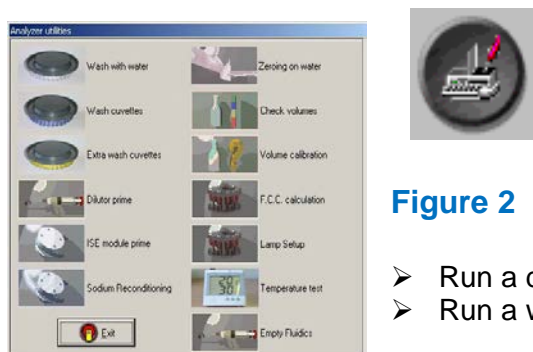

Figure 2
- Run a dilutor prime by the command **Dilutor prime** (Fig. 2).